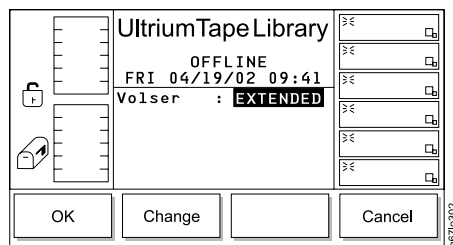

Figure 362. Media Dialog with the Volser field set to EXTENDED
- Press the button below the **Change** softkey so that the Volser field changes to **EXTENDED** (see Figure 362).